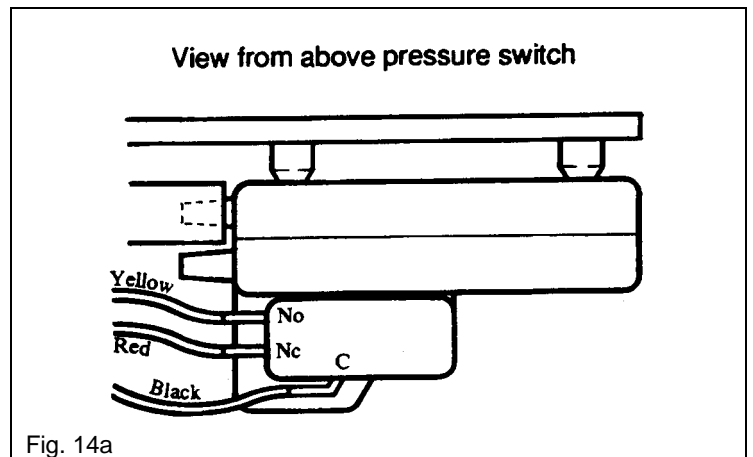

Fig. 14a
8. Place the fan assembly on top of the flue hood with the outlet facing to the rear and reconnect the leads, see Fig. 14a, as follows:
2. Place the fan assembly on top of the flue hood with the outlet facing to the side from which the flue is to exit (for right hand exit the fan will be at the front, for left hand exit the fan will be at the back) and reconnect the leads, see Fig. 14a, as follows: